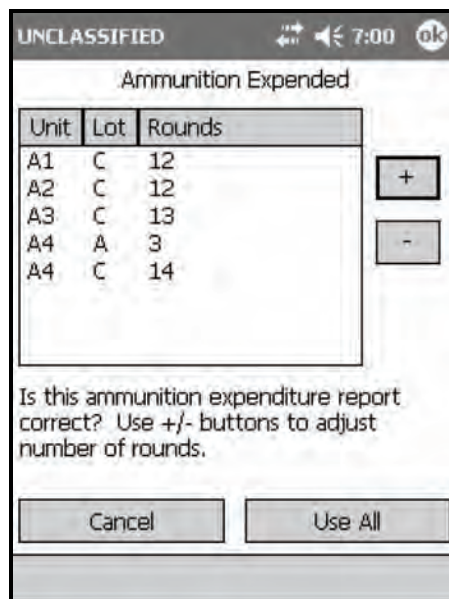

Figure 18-81. Quick Smoke: Ammunition Expended screen.
- (19) Select EOM – No Save, EOM – Record as Target, or EOM – Record as Known Point.
- (20) Select Use All.
- (21) The Ammunition Expended screen displays (Figure 18-81).